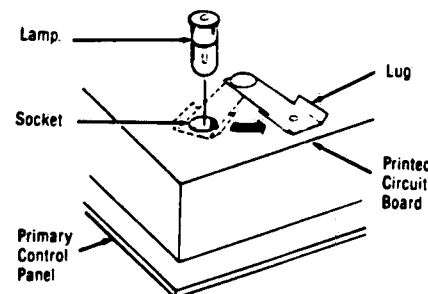

Figure 7-20. LAMP REPLACEMENT.
4. Carefully swing the lug away from the base of the lamp to be changed and remove the lamp (see Figure 7-20).